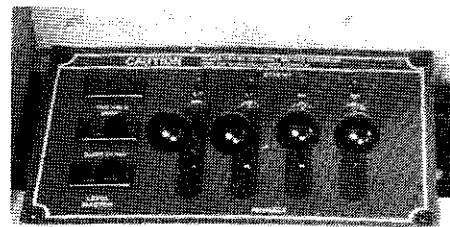

Figure 2-17. Leveling Jack Controls
(See Figure 2-17)
① Set **LEVEL MASTER** switch (see figure 2-17) to **ON** position. Note that the **LEVEL WARNING** indicator will light. **LEVEL SYSTEM** indicators **LF**, **RF**, **LR** and **RR** are lit only when the respective corner of the coach is low.
② Unfold the leveling jacks by setting the floor controls to **EXTEND** position. As soon as the jacks contact the ground, as indicated by the characteristic landing gear **thump**, release the respective control lever to prevent further jack movement.